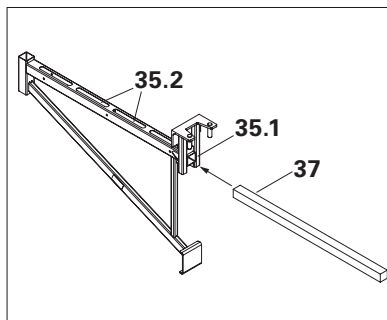

Fig. A7.03
1. Insert the Timber (37) (size 3.8 x 3.8 cm) into the scaffold bracket tube (35.1). (Fig. A7.03)